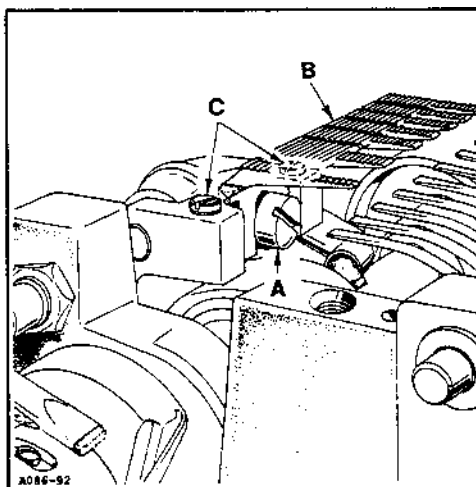

Fig. 11
operating direction until the feed dog is at its highest position. Loosen screw (A, Fig. 11) and remove feed dog (B). Turn height adjusting screws (C) clockwise to lower or counterclockwise to raise the feed dog. The feed dog should extend 1/32" (0.8mm) above the throat plate surface. Retighten screw (A).